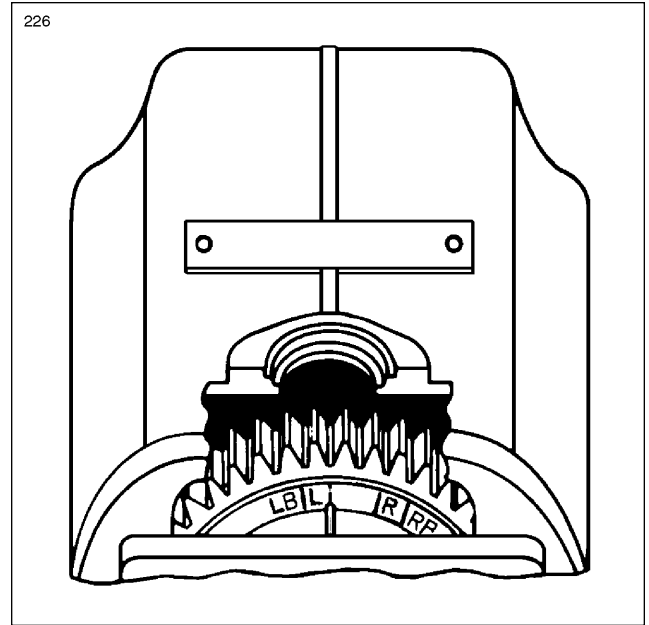

Figure 8A-13. Aligning Timing Marks
2. Hold magneto as shown in Figure 8A-14. Pull heel of flyweight outward